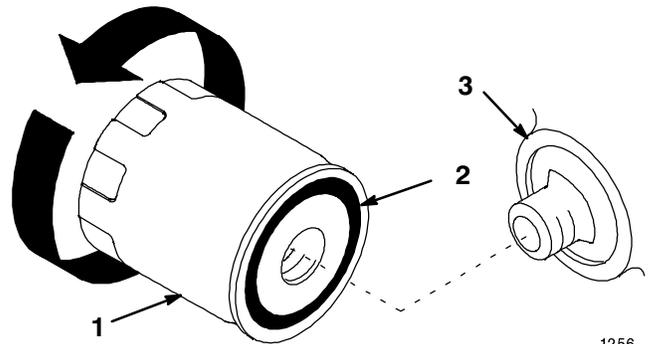

Figure 21
2. Remove the old filter and wipe the filter adapter (Fig. 21) gasket surface.
3. Apply a thin coat of new oil to the rubber gasket on the replacement filter (Fig. 21).
4. Install the replacement oil filter to the filter adapter. Turn the oil filter clockwise until the rubber gasket contacts the filter adapter, then tighten the filter an additional 1/2 turn (Fig. 21).